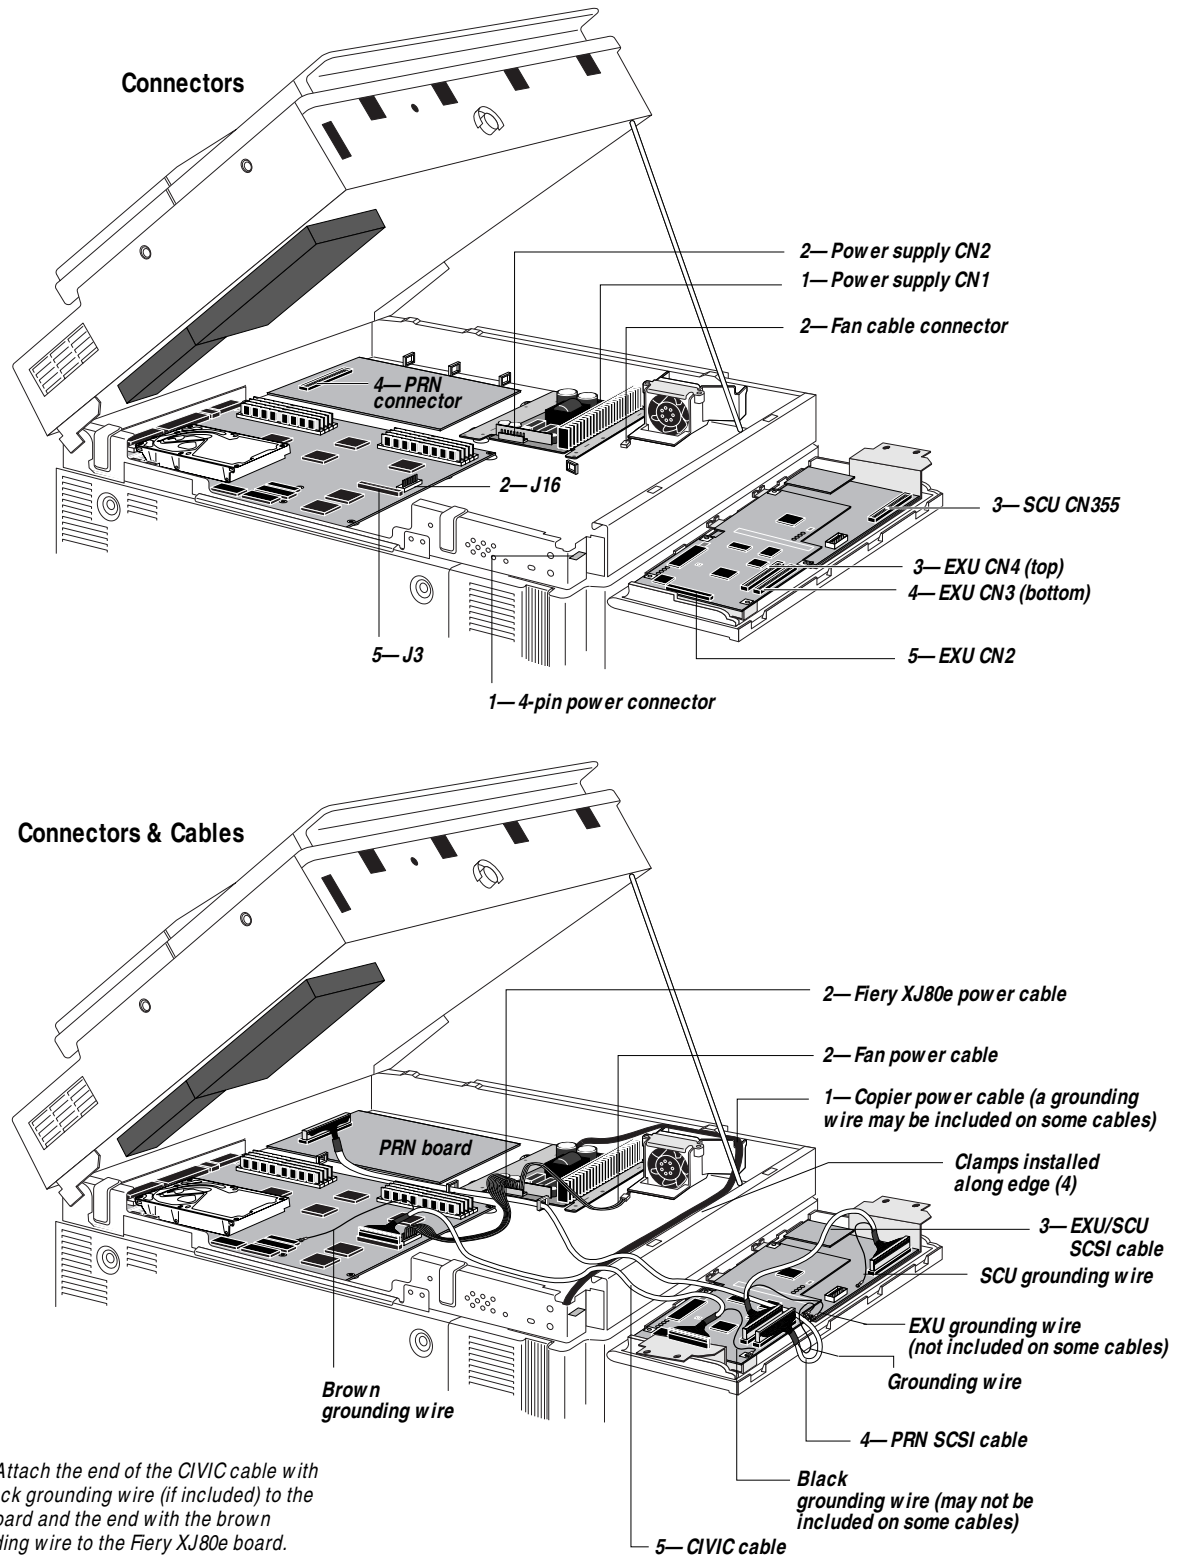

Figure 2-17 Cable connections and ground points
3. ***Install the 4 clamps into the holes at the front of the PRN box (see Figure 2-17 on page 2-21).***
4. ***Connect the cables as detailed in the following table and Figure 2-17 on page 2-21.***
Attach any grounding wires from the EXU/SCU SCSI cable, CIVIC cable, and the Copier power cable to the nearest grounding point as indicated in Figure 2-17 on page 2-21. You may need to remove mounting screws in order to attach the grounding wires. Grounding wires should not come in contact with any other components.